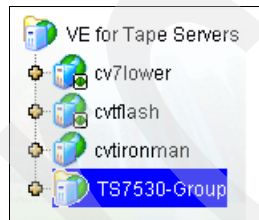

Figure 12-25 New group TS7530-Group
3. After inputting the group name, you can see the result, as in Figure 12-25.